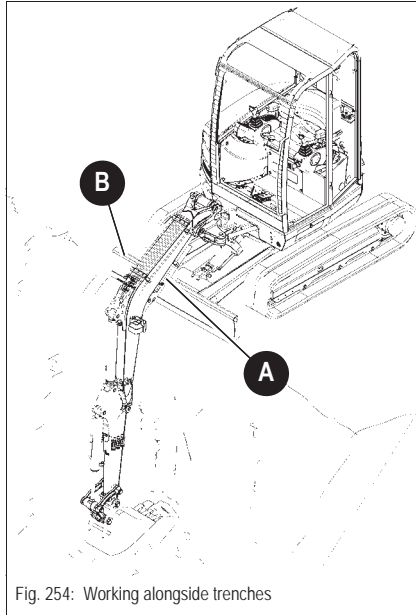

Fig. 254: Working alongside trenches
- Ensure that stabilizer blade **B** never touches piston rod **A** (Fig. 254).
- If you perform deep excavations with stabilizer blade **B** at the front, ensure that piston rod **A** does not touch or rest on stabilizer blade **B** (Fig. 254).
- We recommend using the first work position (Fig. 254) described above and to ensure that piston rod **A** does not touch stabilizer blade **B** under any circumstances.